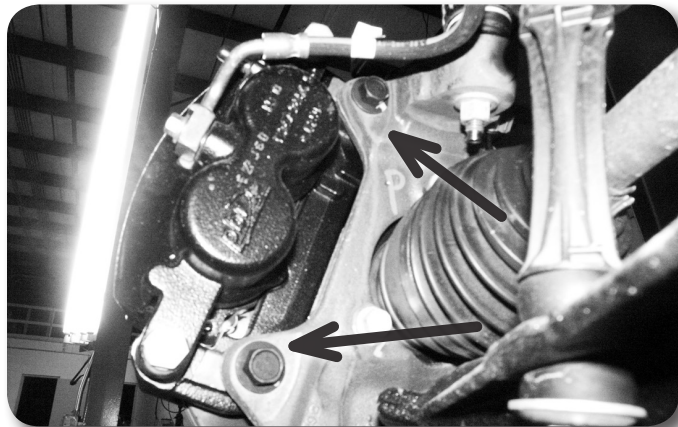

Figure 3
7. Remove the two brake caliper mount bolts and remove the caliper assembly from the knuckle **Figure 3**. Hang the caliper securely out of the way. **DO NOT** hang the caliper by the brake hose. Save caliper bolts.